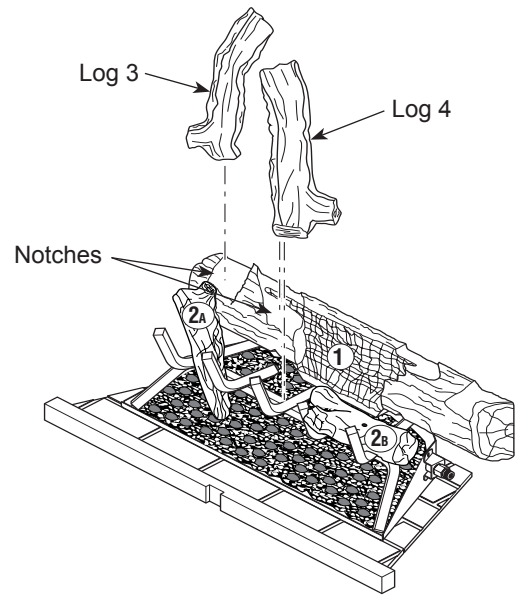
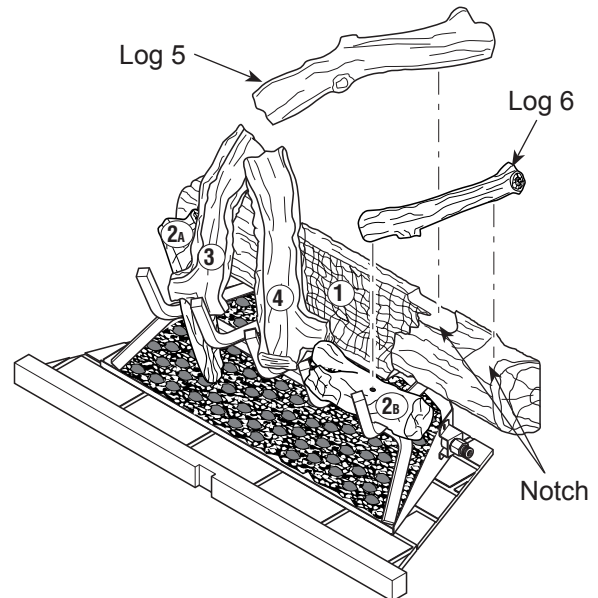
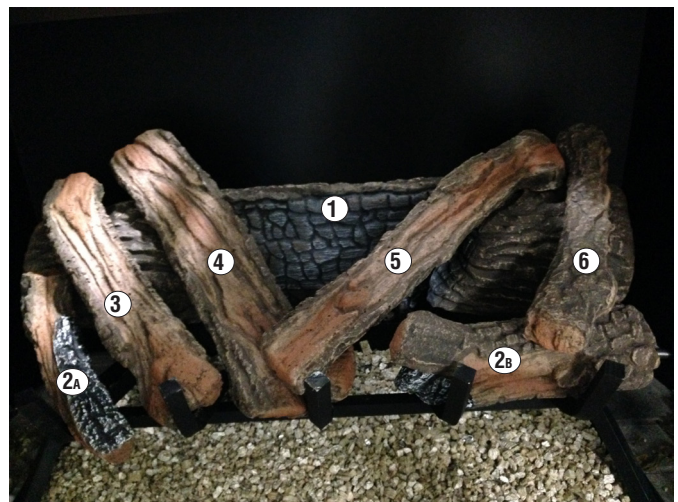

Figure 27 - Installing Logs 3 and 4
Figure 28 - Installing Logs 5 and 6
Figure 29 - Logs Installed for 42" Models
3. Place log 3 into notch on top left of log 1, resting lower end on left two grate fingers (see **Figure 27**).
4. Place upper end of log 4 into notch on log 1 as shown in **Figure 27**. Rest lower end of log 4 on middle grate finger as shown in **Figure 28**.
5. Place upper end of log 5 into notch on top inner right of log 1 (see **Figure 28**). Rest lower end of log 5 on middle grate finger as shown in **Figure 29**.
6. Place log 6 into notch on top right of log 1 (see **Figure 28**). Rest lower end of log 6 on top of log 2B (see **Figure 29**).